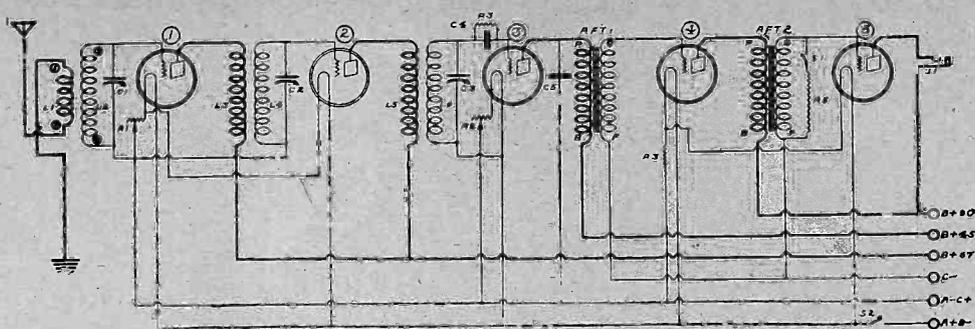

FIG. 346
**KINDLY INFORM** me as to the number of turns to place on a tubing 2 3/4" in diameter to constitute the primary and the secondary windings of a radio frequency transformer, the secondary to be shunted by a .0003 mfd. variable condenser. (2)—I would also like to have a diagram of 6-tube receiver, employing two stages of tuned RF, a non-regenerative detector and three stages of resistance coupled audio frequency amplification.—A. E. Henderson, 3026 North 48th Ave., Omaha, Neb.
(1)—The primary consists of 10 turns. The secondary consists of 65 turns. Use No. 22 double cotton covered wire. (2)—Fig. 346 shows the electrical diagram of a set along the lines as you described. The audio portion is different. However, by following this description, you may obtain the wiring directions of the resistance AF stages. The wiring description of the RF and detector portion of the set can be obtained from the answer to Joyce Lucke's query. The plate post of the detector or third tube is brought to one terminal of a .1 megohm fixed resistor, and to one terminal of a .001 mfd. fixed condenser, C5. The other terminal of the resistance is brought to the B plus 67 1/2-volt post. The P post of this same socket also is brought to the one terminal of a .25 mfd. fixed condenser. The other terminal of this condenser is brought to one terminal of a .1 megohm resistor and to the grid post on the fourth socket. The other terminal of this resistance is brought to the A minus post on the strip. The plate post on the fourth socket is brought to one terminal of a .1 megohm fixed resistor and to one terminal of a .25 mfd. fixed condenser. The other terminal of this resistor is brought to the B plus 135-volt post. The other terminal of the .25 mfd. fixed condenser is brought to the grid post on the fifth socket and to one terminal of a .5 megohm fixed resistor. The other terminal of the fixed resistor is brought to the A minus post on the strip. The plate post on this fifth socket is brought to a terminal of a .1 megohm fixed resistor and a terminal of another .25 mfd. fixed condenser. The other terminal of this fixed resistor goes to the B plus 135-volt post. The other terminal of the fixed condenser goes to the grid post on the last socket and to a terminal of a .25 megohm fixed resistor. The other terminal of this resistor is brought to the minus post of a 6-volt C battery. The plate post of this socket is brought to the top terminal of a single circuit jack. The bottom terminal of this jack is brought to the B plus 135-volt post. Now all the F plus, as well as the F minus posts are connected together. The common negative terminal is brought to a terminal of a 3/4-ampere ballast resistor. The other terminal of this ballast resistor is brought to the A minus post on the strip. The plus terminals are brought to one terminal of the switch S2. The other terminal of this switch is brought to the A plus, B minus post on the strip.
Fig. 346 shows the electrical diagram of this receiver. The primaries, L1, L3 and L5 consist of 10 turns. The secondaries, L2, L4 and L6, consists of 65 turns wound on a form 2 3/4" in diameter. Fifteen dowel sticks are employed. These are 1/4" in diameter. The under two and over two method of winding is employed. No. 22 double cotton covered wire is used. C1, C2 and C3 are .0003 mfd. variable condensers. If you wish to use .0005 mfd. variable condensers, then the secondaries should consist of 55 turns. R1 is a 10 ohm rheostat. R2 is a 15 ohm rheostat. R3 is a 1/2 ampere ballast resistor. R5 is a high resistance rheostat (0 to 5 megohms). C4 is a .00025 mfd. fixed condenser. R3 is a 2 megohm grid leak. C5 is a .001 mfd. fixed condenser. AFT1 and AFT2 are both low ratio type audio frequency transformers. S1 is a single throw, single pole, or simple filament switch. S2 is a filament control switch. J1 is a single circuit jack. The radio frequency transformers may be placed on the end plates of the condensers or on angle irons mounted directly on the baseboard. When mounted, the second RFT should be mounted erect, with the windings of the other two RFT bending away from each other, (V shape formation). The primary windings may be wound in the regular fashion, e. g., 1/4 or 1/8" separation between the primary and the secondary windings, or 27 turns of the secondary are first wound, then 10 turns of the primary winding and 10 turns of the secondary winding are wound. This is followed by the remaining 28 turns of the secondary winding. A 7x24" panel can be used. The rheostat can be placed in between the condensers. The switches can be placed at the extreme bottom portions of the panel. The single circuit jack can be placed underneath the dial on the shaft of the second variable condenser. Now as to the wiring. The beginning of the primary winding, indicated by 1, in L1, is brought to the ground post. The end of this winding, indicated by 2, is brought to the antenna post. The beginning of the secondary winding, indicated by 3 in L2, is brought to the grid post on socket 1 and to the stationary plates of the variable condenser, C1. The end of this winding, 4, is brought to the rotary plates of C1 and to the arm of R1, which incidentally also goes to the A minus C plus post on the strip. The beginning of the primary winding, L3, is brought to the plate post on the first socket. The end of this winding is brought to the B plus